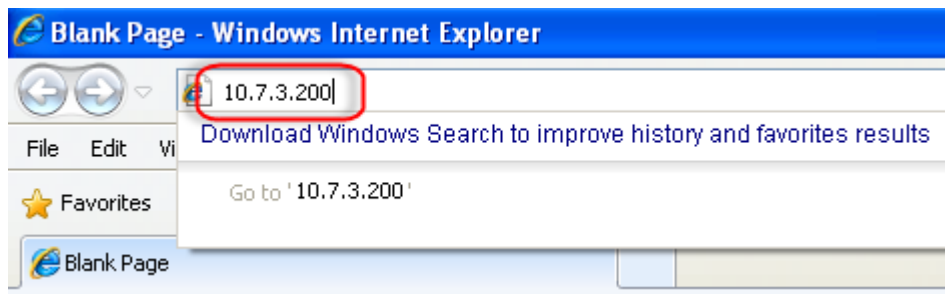

Figure 2-2 Web Browser OMT Connection for Wired Access
- 4. Open a browser window and enter the default gateway in the navigation bar. This will access the WebOMT page. Figure 2-2 shows an example using 10.7.3.200 as the default gateway.